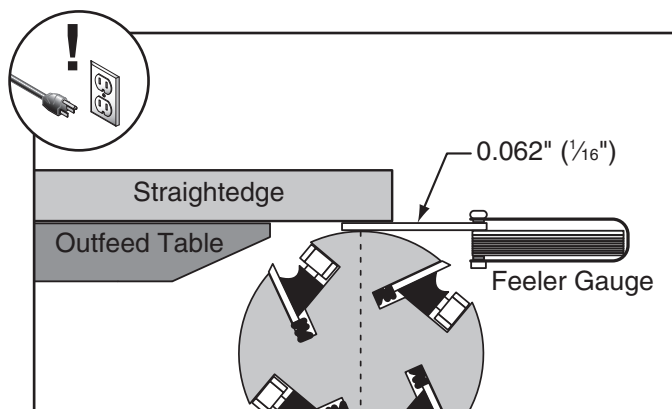

Figure 57. Using feeler gauge to set outfeed table height.
- Place the straightedge on the outfeed table so it hangs over the cutterhead, and lower the outfeed table until the straightedge is 0.062" ($\frac{1}{16}$ ") above the cutterhead body, as determined by using the feeler gauge or combination of feeler gauges (see **Figure 57**).